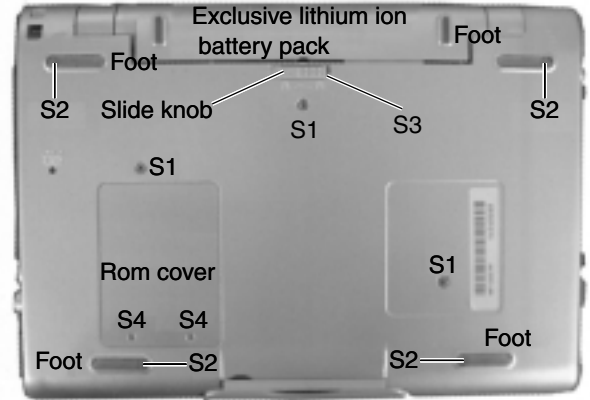

Fig. 1
Note 1) Do not reuse the feet if they have lost their adhesive properties. If the tip of a flat-blade screwdriver is used for peeling them off, take care not to scratch the bottom case. (Fig. 1)
4. With the slide knob positioned on the left, remove the exclusive lithium ion battery pack. (Fig. 1)